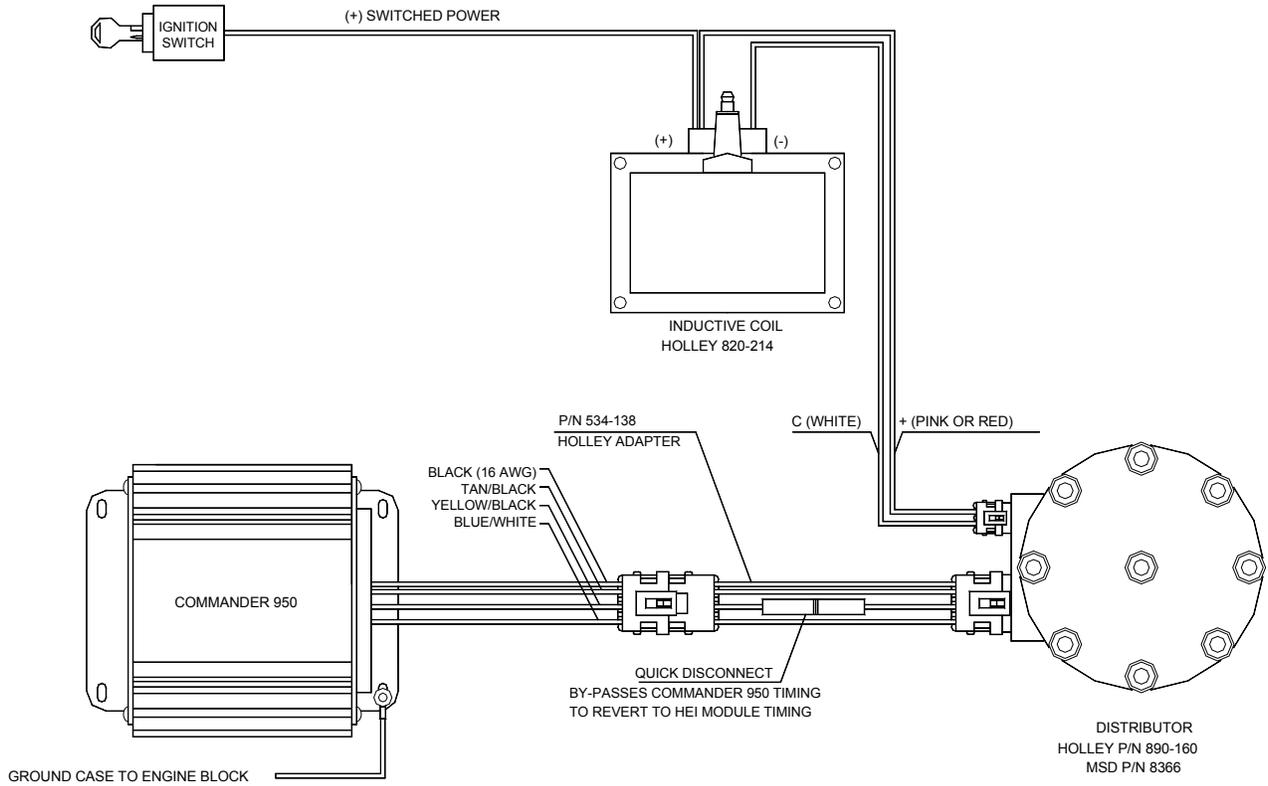

Figure 80
- Figure 80:** Commander 950 PRO to GM HEI Using Computer Controlled Distributor, External Coil.